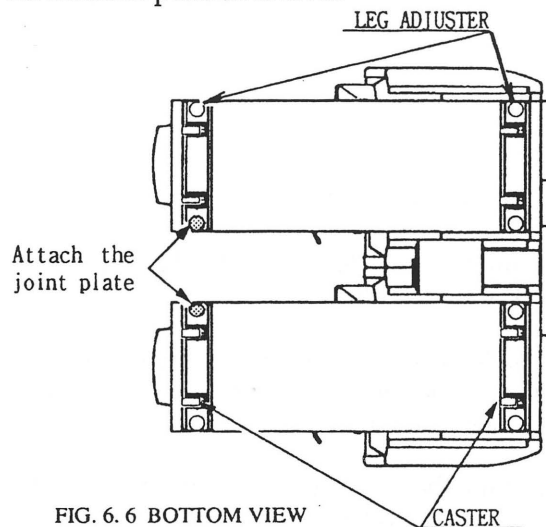

FIG. 6.6 BOTTOM VIEW
This machine has eight casters and eight leg adjusters (Fig 6.6). When the installation position is determined, cause the leg adjusters to come into contact with the floor directly, make adjustments in a manner so that the casters will be raised approximately 5 mm. from the floor and make sure that the machine position is level.
- 2) Attach the joint plate for the 2 internal leg adjusters shown. First, cause the other 6 leg adjusters to come into contact with the floor. Make leg adjuster adjustments with a wrench in a manner to ensure the machine's position is level (Fig. 6.6).